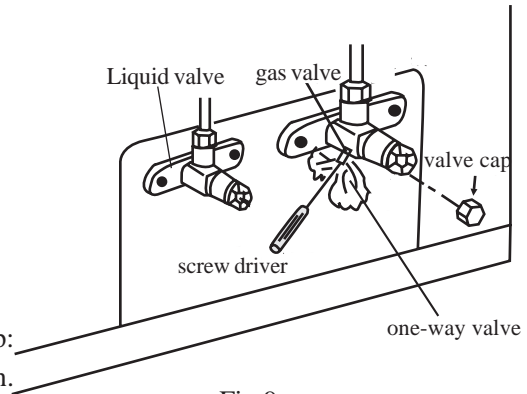

Fig.9
4. Open the liquid valve and gas valve entirely (shown in Fig.9).
4. Fully open valves. (Fig.9)